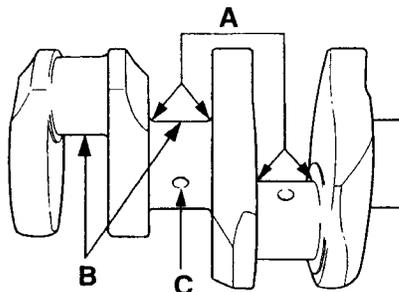

Fig. 73. Checking of recess radius
1. Grind the crankshaft in a crankshaft grinding machine to the undersize as per "Technical data". Surface fineness 1.6 Z (▽▽▽) for bearing races (B, Fig. 73) and recess radius are achieved by rubbing with emery cloth No. 400.